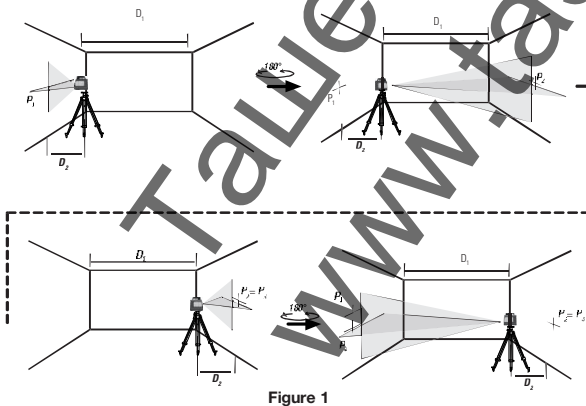

Figure 1
The Power ON/OFF switch is located on the rear of the tool as shown in figure 1. When the switch (C) is in the OFF/LOCKED position, the unit will remain off and the pendulum will be locked. When the on/off switch (C) is in the ON/UNLOCKED position, the unit will be powered ON and the pendulum will be released from the locked position and self level.
(See Figure 1)
- Place the laser tool on a tripod and close to wall #1 as shown in Fig 1. Turn on both a horizontal and vertical line. Mark the intersection of the points P_1 .